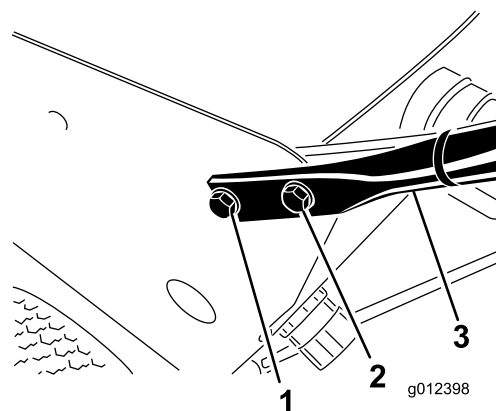

Figure 4
3. Using the lower set of holes, loosely mount the handle to the tank support with (2) bolts (Figure 4).
4. Select one of the upper mounting holes, position the handle at the desired operating position and secure the handle to the tank support with (2) bolts and nuts (Figure 4).